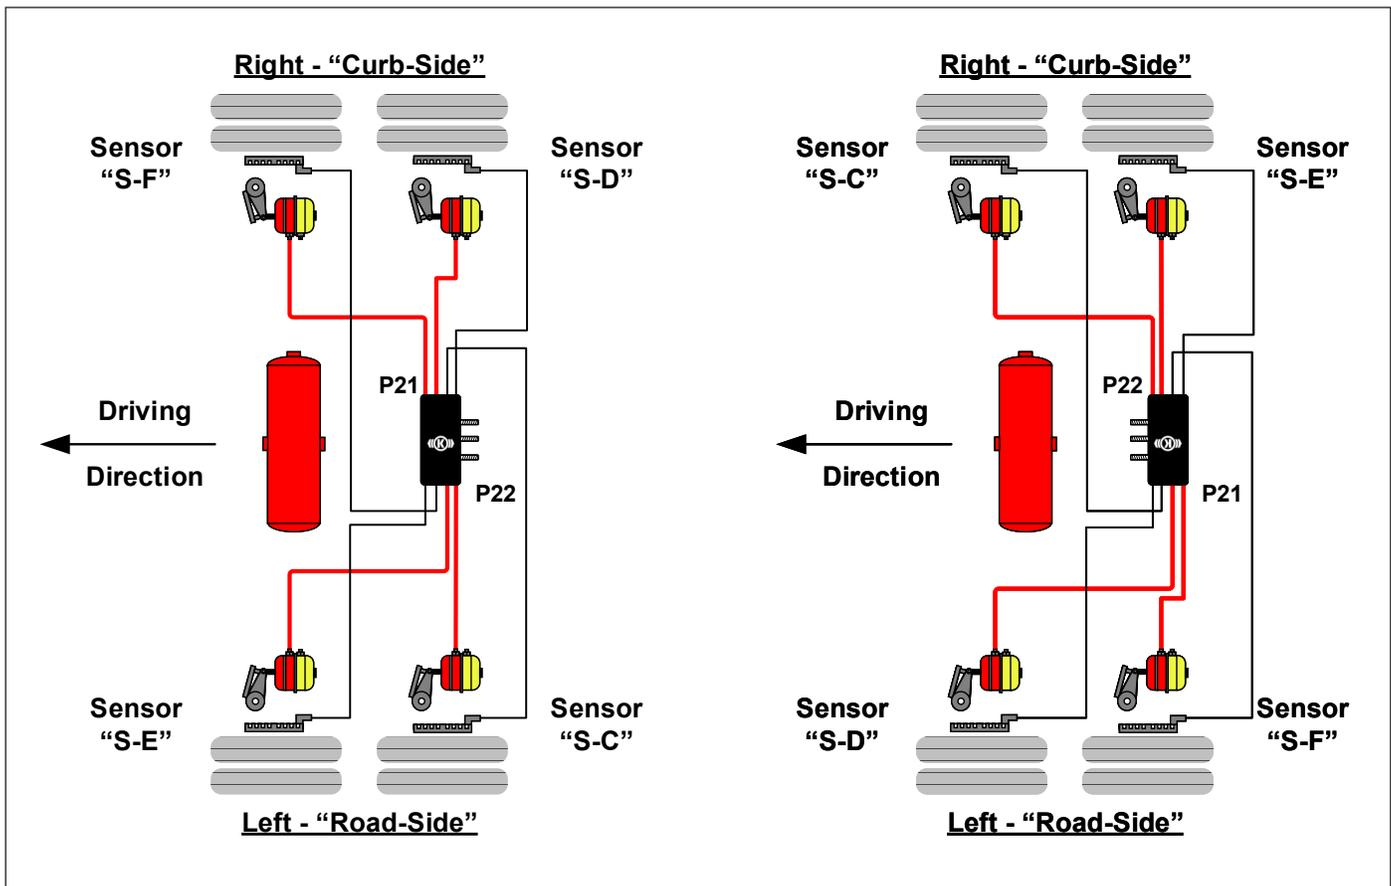

Figure 19 – Wheel Speed Sensor Locations
NOTE: The wheel speed sensors must follow the orientation of the module as shown in Figure 19 for fixed axle trailers. Where a lift-axle is present, and sensors are to be installed on that axle, secondary sensors SE and SF must be used for the lift-axle.
- If the wheel sensor location does not match the orientation of the Bendix TABS-6 Advanced MC module shown in Figure 19, a Diagnostic Trouble Code (DTC) will be generated and the Antilock Braking System (ABS) indicator lamp will be illuminated.
- Refer to the raised lettering on the casting body, or see Figure 19, for wheel speed sensor locations, "S-C", "S-D", "S-E", and "S-F".